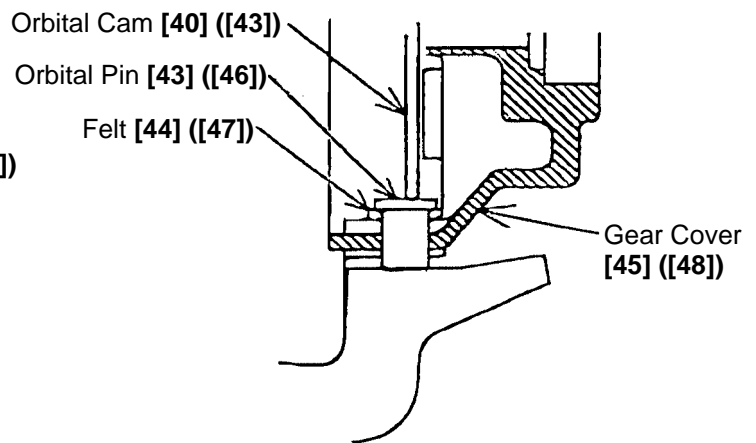

Fig. 16
- (4) During reassembly, be very careful not to forget to install the Felt [44] ([47]) at the lower portion of the Orbital Cam [40] ([43]), as shown in Fig. 16.